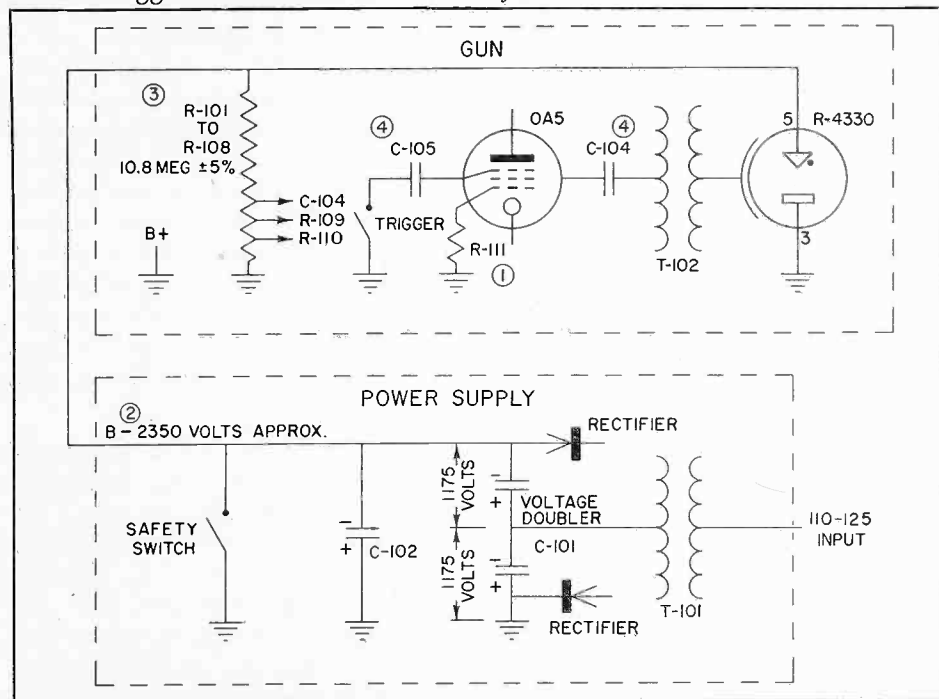

Figure 2. A partial single line schematic of a photoflash unit to aid in trouble shooting. Circled numbers indicate trouble points mentioned in the article.
When servicing electroflash units, the first thing to be determined is the location of the source of the trouble. In most cases, you can assume that if the "keep alive glow" is visible in the Sylvania Type OA5 trigger tube, the power supply is operating normally. The OA5 tube can be seen by unscrewing the bottom end cover on the base of the gun on Wabash models. The "keep alive glow" appears as a small lighted violet spot at the base of the tube elements. If the glow is not visible, it could, of course, be a gun defect such as a defective OA5 or an open resistor R-111, in Figure 2 (1)*; but, as stated previously, the chances are that it is power supply trouble. Therefore, checking the power supply should be the next logical step. The power supply should be removed from the cabinet to be sure that the storage capacitor is discharged before any attempt is made to measure voltages. The case should never be removed from the gun before it is detached from the power supply.
After all precautions have been taken with the capacitor, a voltage reading should be taken of the output. The meter should be switched to its high range and connected to the circuit before the supply is turned on, bearing in mind that all Wabash electroflash equipment use a positive ground. Before turning the power supply on, set it in an upright position so as to disengage the shorting switch contact. The voltage reading obtained should be approximately 2350 volts, in Figure 2 (2), at a normal line voltage of 117 volts a c input in units using either Sylvania Type R-4330 or R-4340. Should the output reading obtained be much less than this figure, normal power supply service procedure can be used in checking out the components.
The first check should be a resistance reading of the voltage divider network made up of resistors R-101 to R-108 in Figure 2 (3). This can best be done by measuring between pins 3 and 5 of the flash tube socket or between pin 5 and the exposed shield of the high voltage cable. The reading obtained should be approximately 10.8 megohms, plus or minus five per cent. If the variation exceeds five per cent, check each resistor in the divider individually and replace if necessary. Special attention should be given to the value of R-101 to see that it is within its five per cent tolerance; intermittent operation may result if it is not. The unit will flash automatically without being triggered or will not flash at all, depending on whether R-101 is excessively above or below its specified tolerance. Should the divider resistors check okay, a check should then be made of the values of the trigger tube supply resistors, R-109, R-110 and R-111. Again, if any exceed their tolerance they should be replaced.
set of fully charged batteries in good condition. This figure is based on factory tests, flashing the unit every consecutive 20 seconds. However, flashing at longer intervals will reduce the number of available flashes proportionately. Certain conditions in the gun will alter those figures. A gun in good electrical condition will fire at a minimum voltage of 1750 volts. If the trigger supply voltages were not correct or the oscillatory trigger capacitors had over the nominal amount of leakage, the minimum flashing voltage would increase. Therefore, even if the batteries were in a fully charged condition, fewer flashes would be obtained, sometimes reducing to almost one-half the normal number. One of the most common causes of this reduced flashing voltage range is the condition of the capacitors C-104 and C-105 in Figure 2 (4). If a capacitance tester is not available, we suggest the replacement of these capacitors rather than relying on the familiar ohmmeter "kick" test. Ordinarily not much trouble should be encountered with the triggering transformer (T-102). Excessive moisture will affect its operation; therefore, the rubber weather-proofing band should always be replaced around the top of the gun and flash tube. The primary of the trigger transformer will